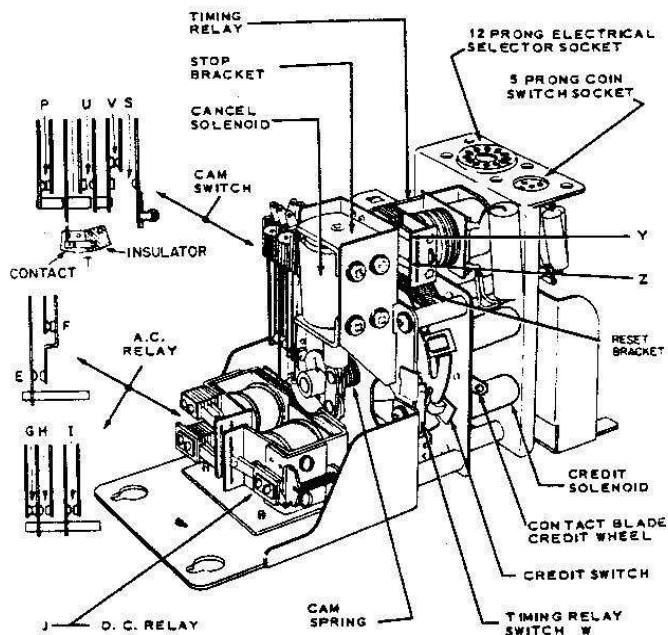

Figure 2.
The principle parts of the unit are three credit solenoids, a cancel solenoid, two cam operated switch groups, a timing relay, an a.c. operated "50¢ relay" and a d.c. operated "slow release relay". These may be identified in Figure 2.
3. Set the end of the Cam Spring in the first hole in the panel. The Cam Spring may be identified in Figure 2. Check operation by closing all snap-action credit switches and allow the Cam Spring to rotate the switches past the reset bracket. This should be checked slowly to determine if the Spring pressure is adequate to reset the switches without benefit of inertia. If more spring pressure is required, move to the second hole and repeat the test. Use the lowest possible spring pressure (consistent with positive operation) to insure minimum wear and optimum low voltage operation.